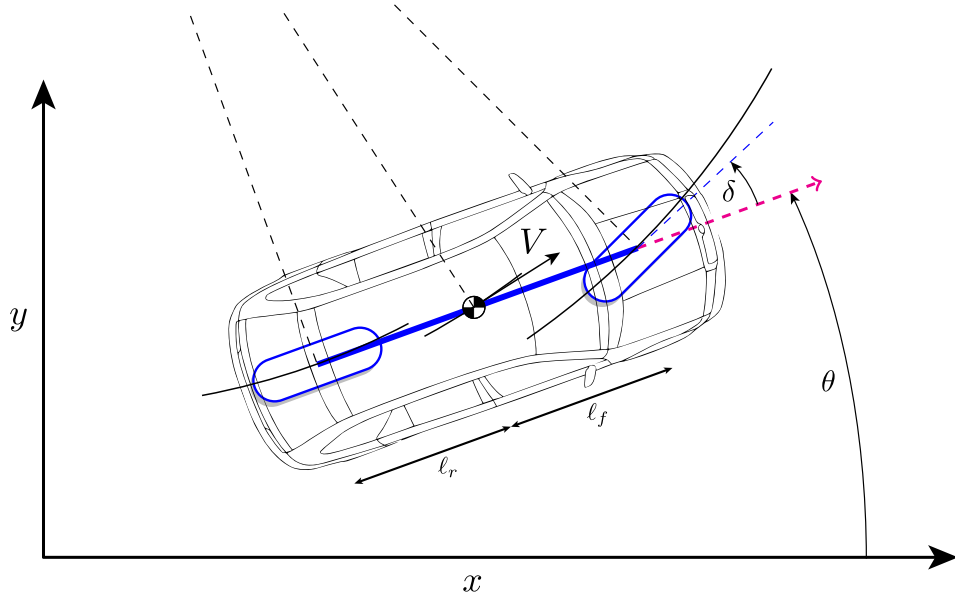

Figure 1: Car Model
**Vehicle Kinematics and Dynamics** We capture the motion of the car with what is called a bicycle model. The equations derived below are with reference to the constants shown in Figure 1.